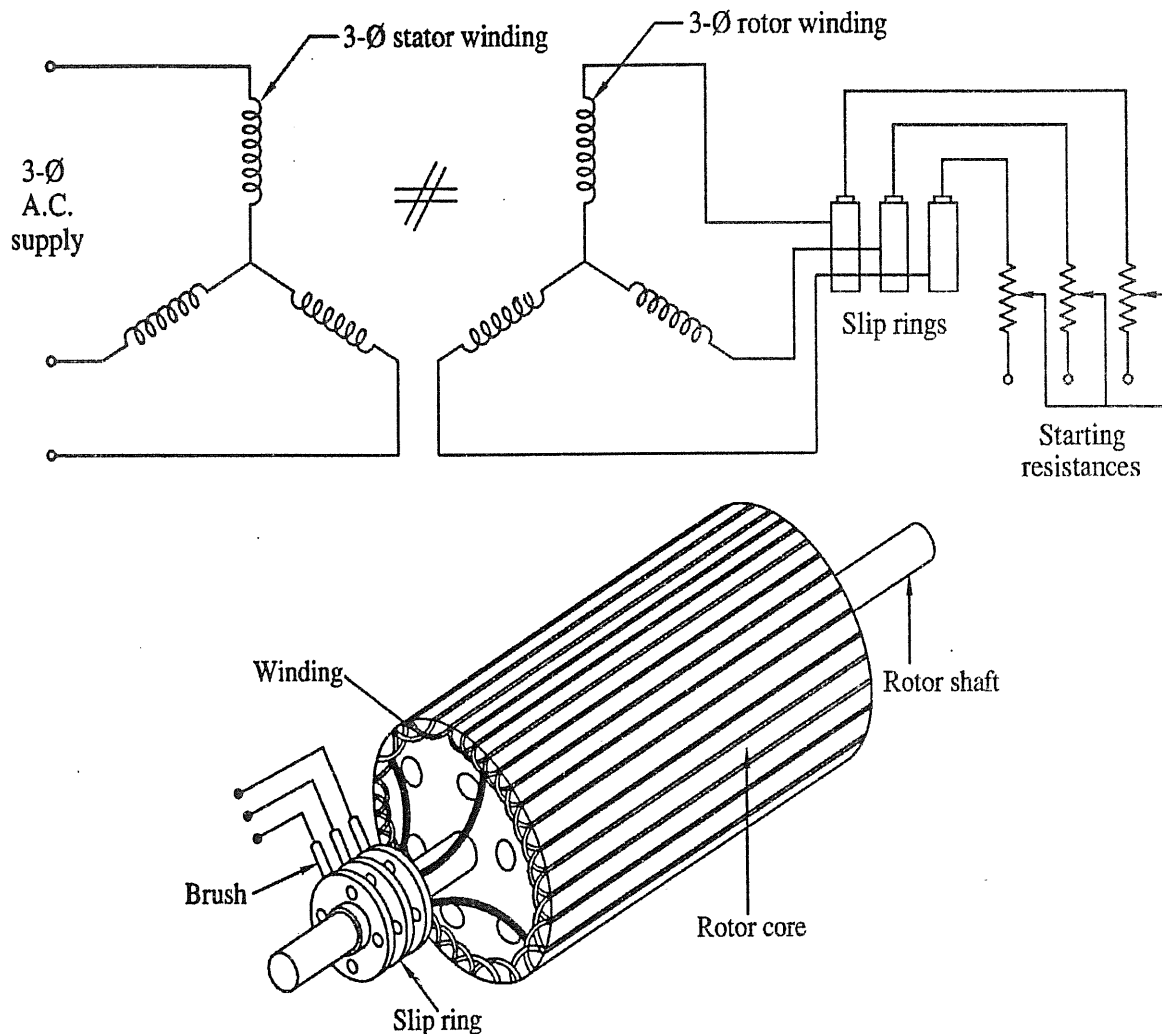

FIG. 4.10 : WOUND ROTOR OR SLIP RING INDUCTION MOTOR
- Fig. 4.10 shows the circuit arrangement of slip ring rotor.